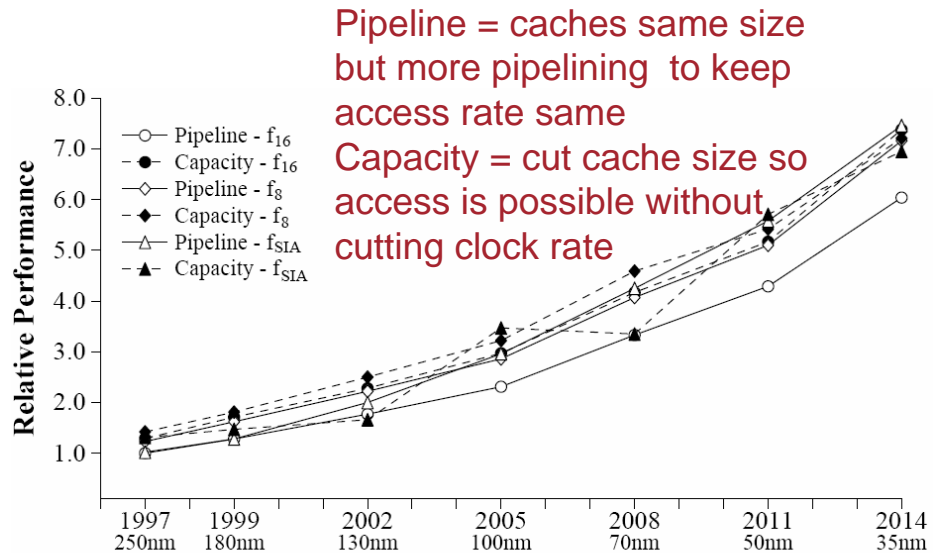

Figure 7: Performance increases for different scaling strategies.
- Figure 7 from “Clock Rate versus IPC: The End of the Road for Conventional Microarchitectures” Vikas Agarwal, M.S. Hrishikesh, Stephen W. Keckler, and Doug Burger